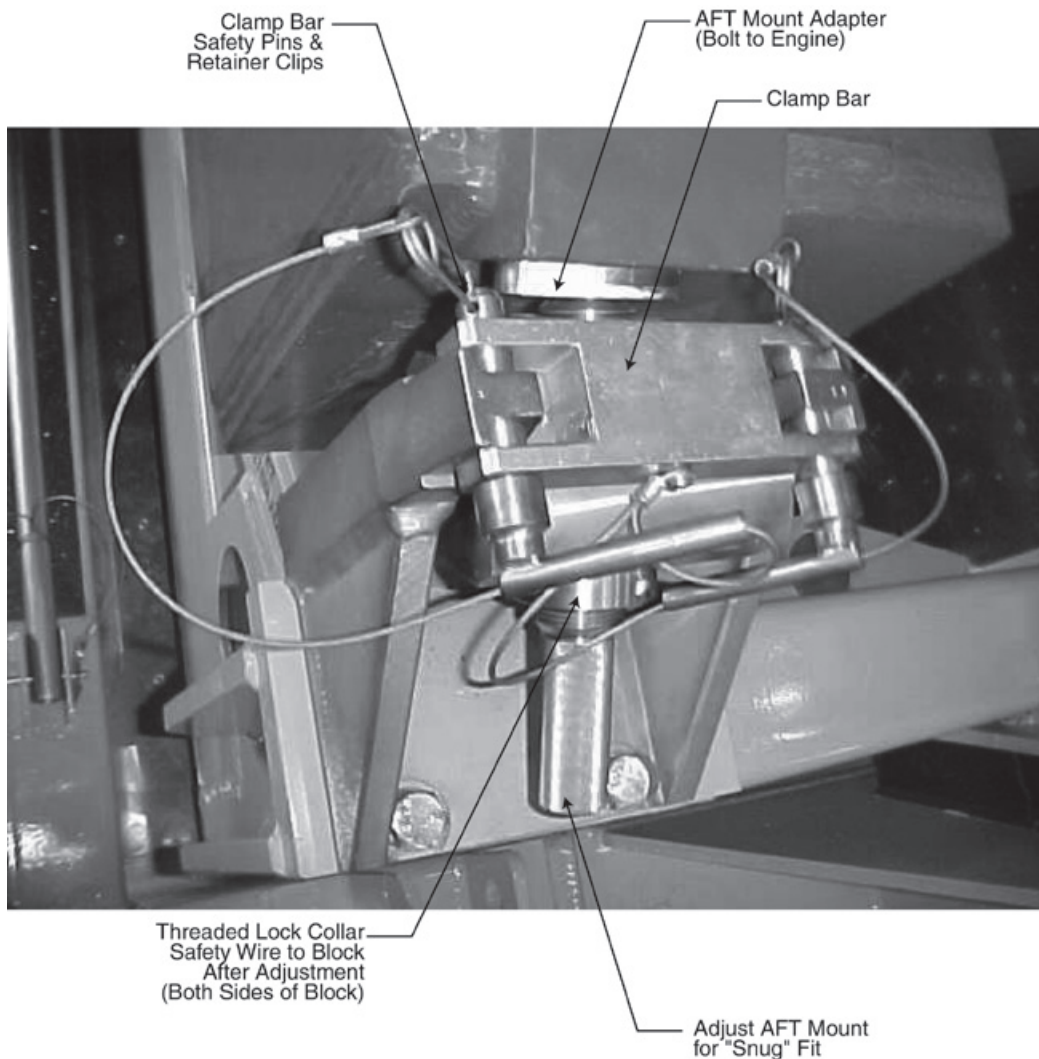

Figure 5.7-1
- 4) Remove AFT engine ground handling mounts from the engine stand and install on the engine LPT using the hardware provided. The safety wire on the mount pins must be removed to adjust the extension of the pins. (See Figure 5.7-1)